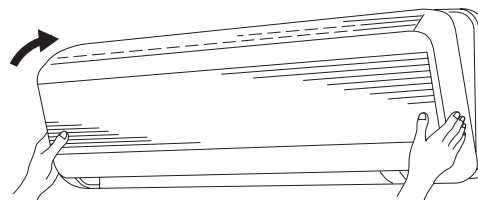

Fig. 1-40a
- (1) Close the flaps.
- (2) Reinstall the grille into the lower part while aligning its tabs on the upper part. (Fig. 1-40a) Insert the tabs in the slots and push the lower part of the grille back into position.